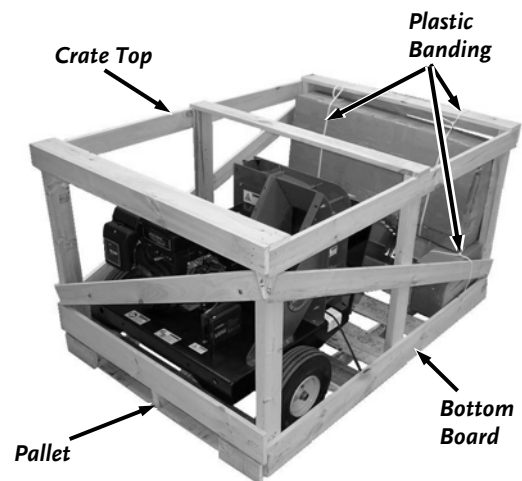

Figure 5
1. Cut the Plastic Banding that is securing the Parts Box and any Accessory Box that may be strapped to the Crate Top (*Figure 5*).